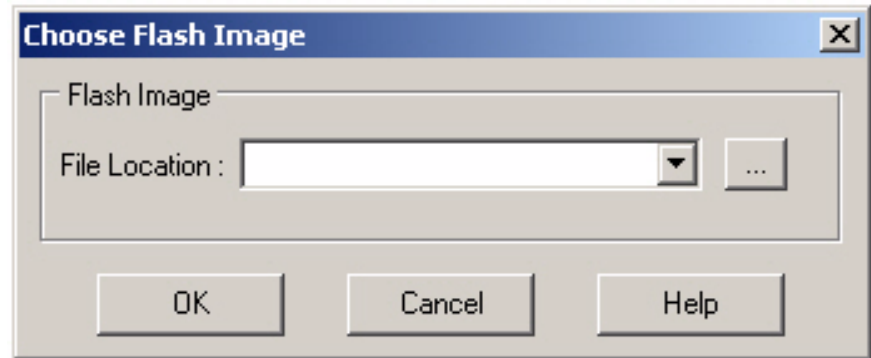

Figure 4, Locate the Flash Image File
8. Refer to Figure 4. Click on the “three dots” button and browse to the directory where the firmware executable file is located and select that file. Press **OK**.